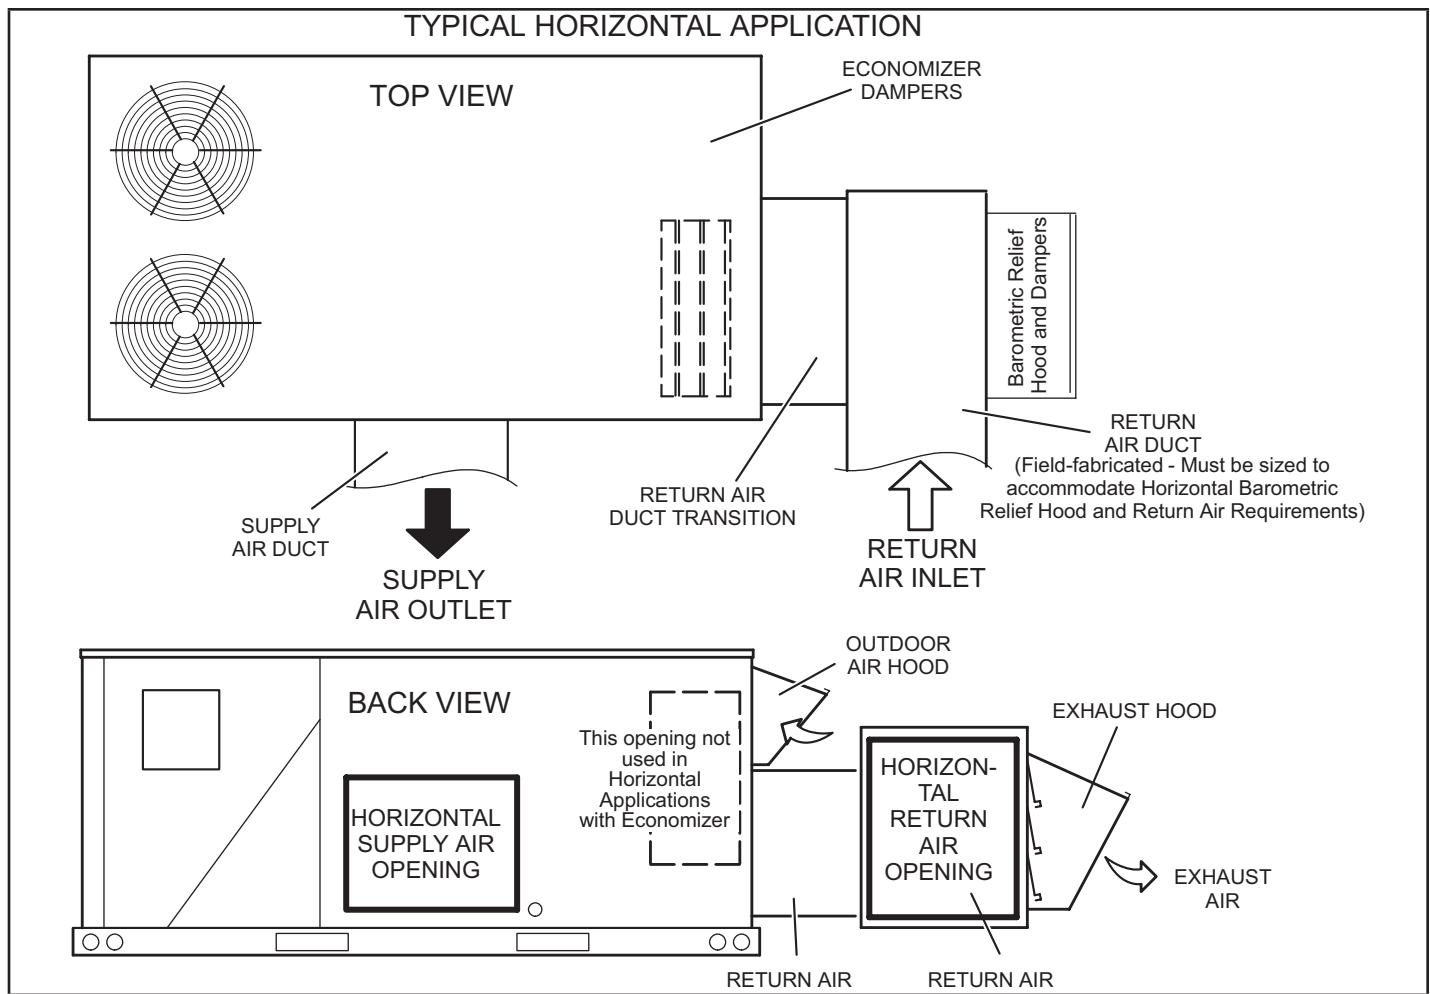

FIGURE 8
- 5 - Install the field-fabricated return air duct transition and duct inlet on the unit end. See FIGURE 8. Support the transition and duct inlet as needed.